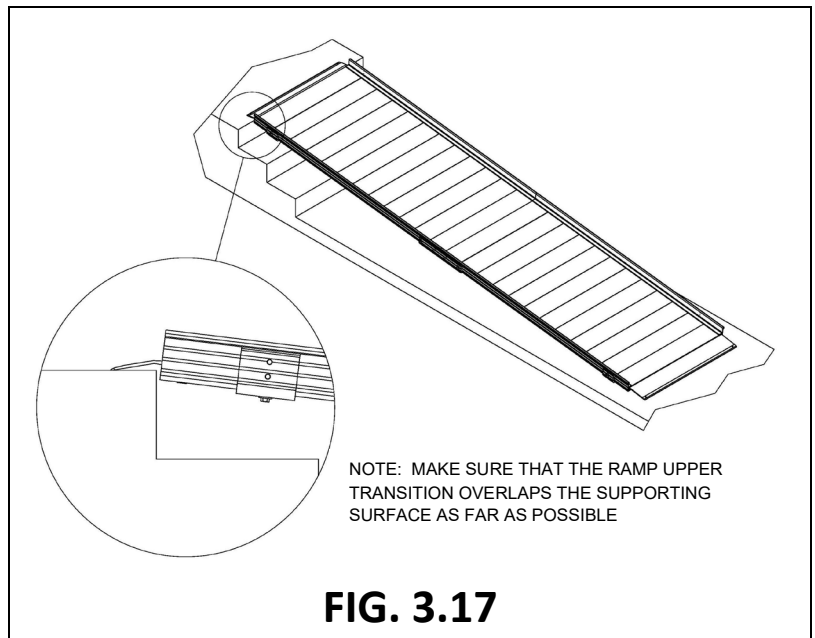

FIG. 3.17
- 3.6.6. Maneuver the ramp to its desired position (FIG. 3.17).